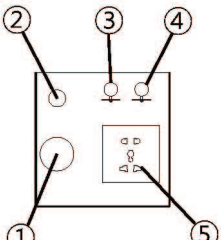

figure 2
3.4.4 The whole pipeline joint is installed in the 200mm, width 200mm. Depth 100 installation groove. (figure 2)